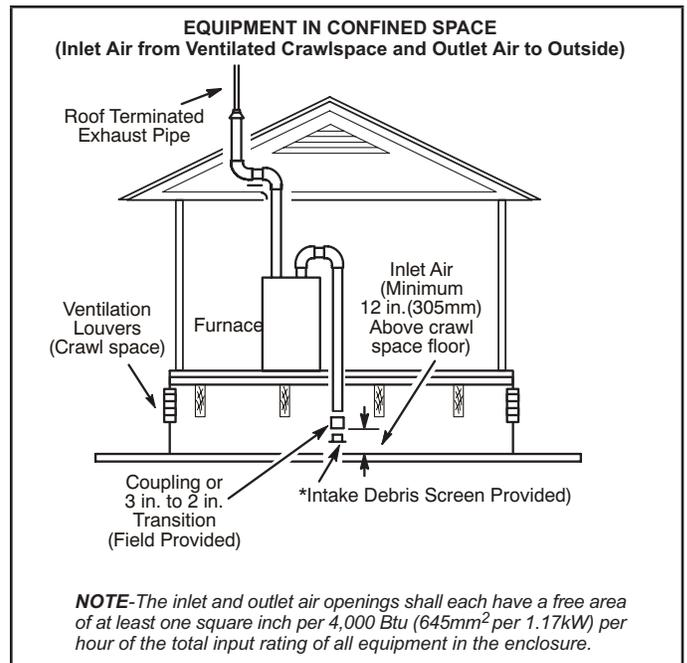

FIGURE 28
- 2 - If intake air is drawn from a ventilated crawlspace (FIGURE 28) or ventilated attic (FIGURE 30) the exhaust vent length must not exceed those listed in TABLE 23. If 3" diameter pipe is used, reduce to 2" diameter pipe to accommodate the debris screen.